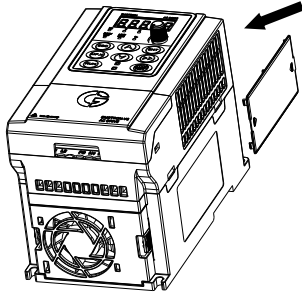

Fig.3-4 Dust cover installation and removal
- a. Install dust cover: The dust cover has been shown in Fig3-4 parallel to the housing assembly